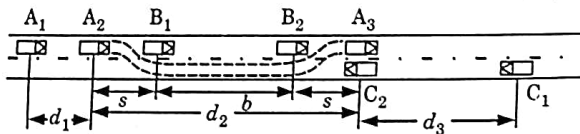

Fig. 2.12.1
1. Fig. 2.12.1 shows the overtaking manoeuvre of vehicle A traveling at design speed, and another slow vehicle B on a two-lane road with two-way traffic. Third vehicle C comes from the opposite direction.
3. In Fig. 2.12.1. A is the overtaking vehicle originally traveling at design speed v m/sec, or V kmph; B is the overtaken or slow moving vehicle moving with uniform speed v_b m/sec or V_b kmph; C is a vehicle coming from opposite direction at the design speed v m/sec or V kmph.